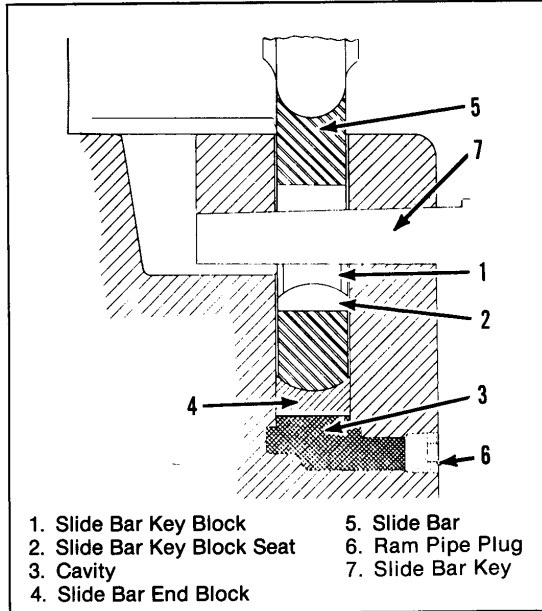

Figure 5.4.3.1.1 Slide Bar Pocket Assembly
- 3) Position slide bar, the slide bar end block, slide bar key block seat and slide bar key block (See Figure 5.4.3.1.1).